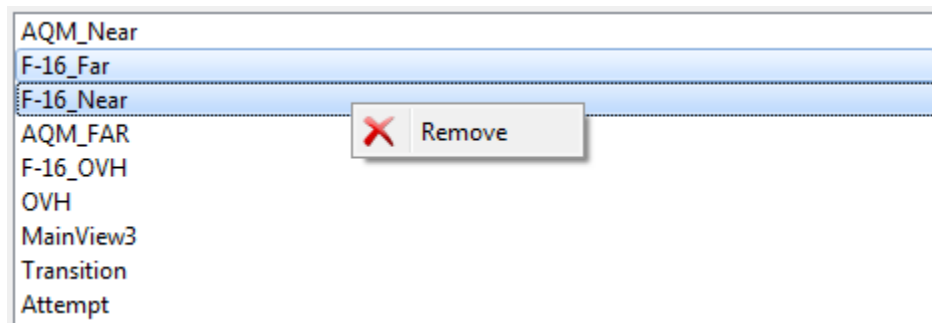

Figure 5.39: Eye Position Category Type
- You can easily remove selected **Events** using the **✗ Remove** right-click menu, shown in Figure 5.39.
**NOTE:** You can remove selected **Eye Positions** using the  **Remove** right-click menu, shown in Figure 5.39.